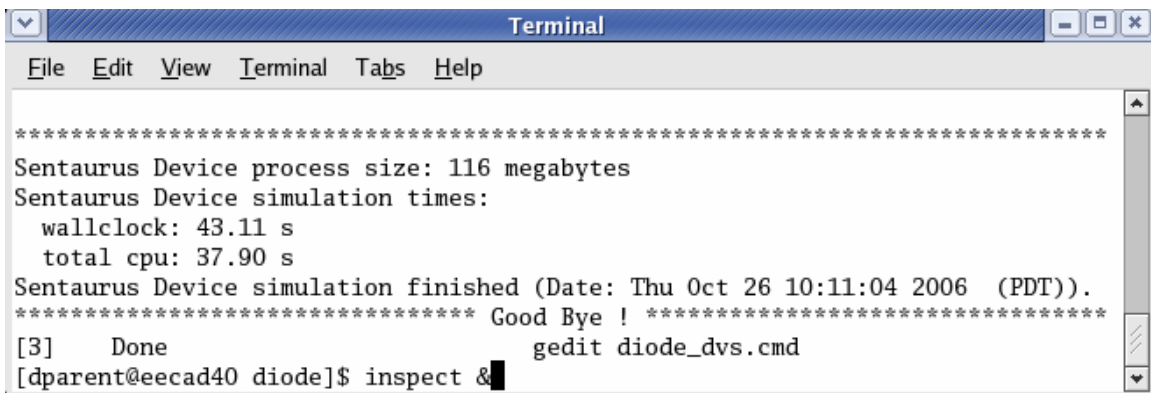

Figure 109: Sdevcie exiting properly and starting inspect.
2. Run the deck by typing `sdevice diode_des.cmd` at the command line. It should exit properly (Figure 109).
1. Start inspect by typing inspect & at t command line (Figure 109).